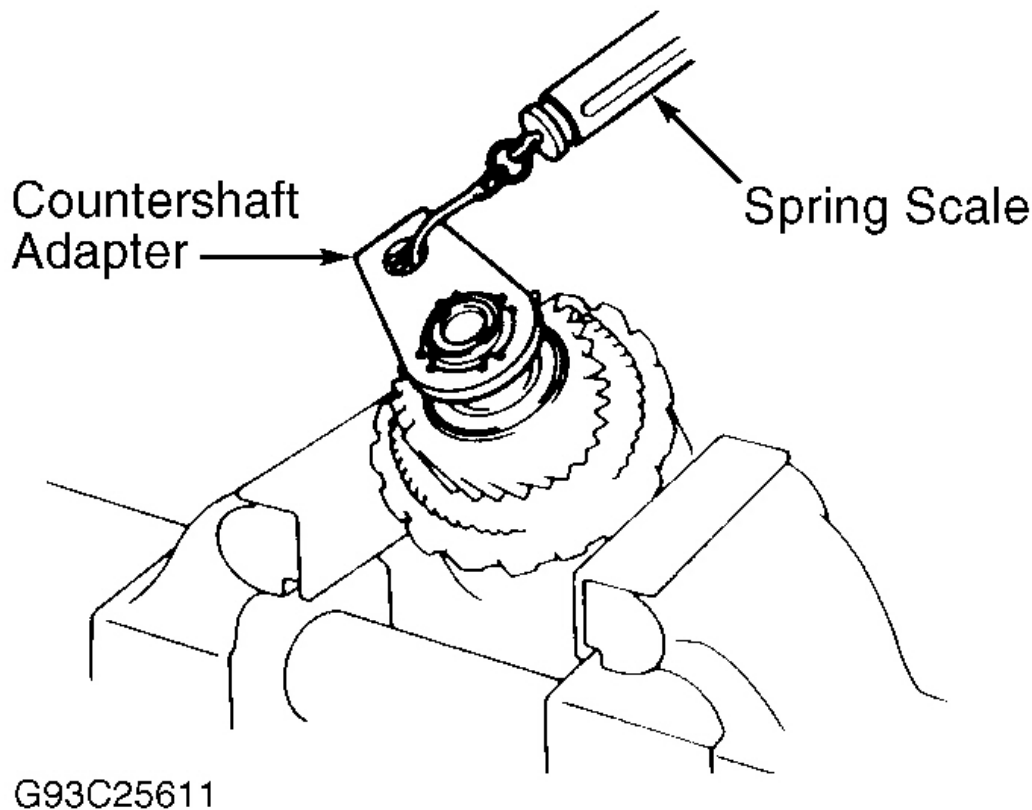

Fig. 38: Measuring Countershaft Torque
5. Using Countershaft Adapter (09351-32170) and a spring scale, measure starting torque of countershaft. Before measuring starting torque, turn countershaft firmly to seat bearing. Starting torque should be 2.6-4.4 lbs. (1.2-2.0 kg). Replace spacer if starting torque exceeds specification. Recheck starting torque. See **Fig. 38**.